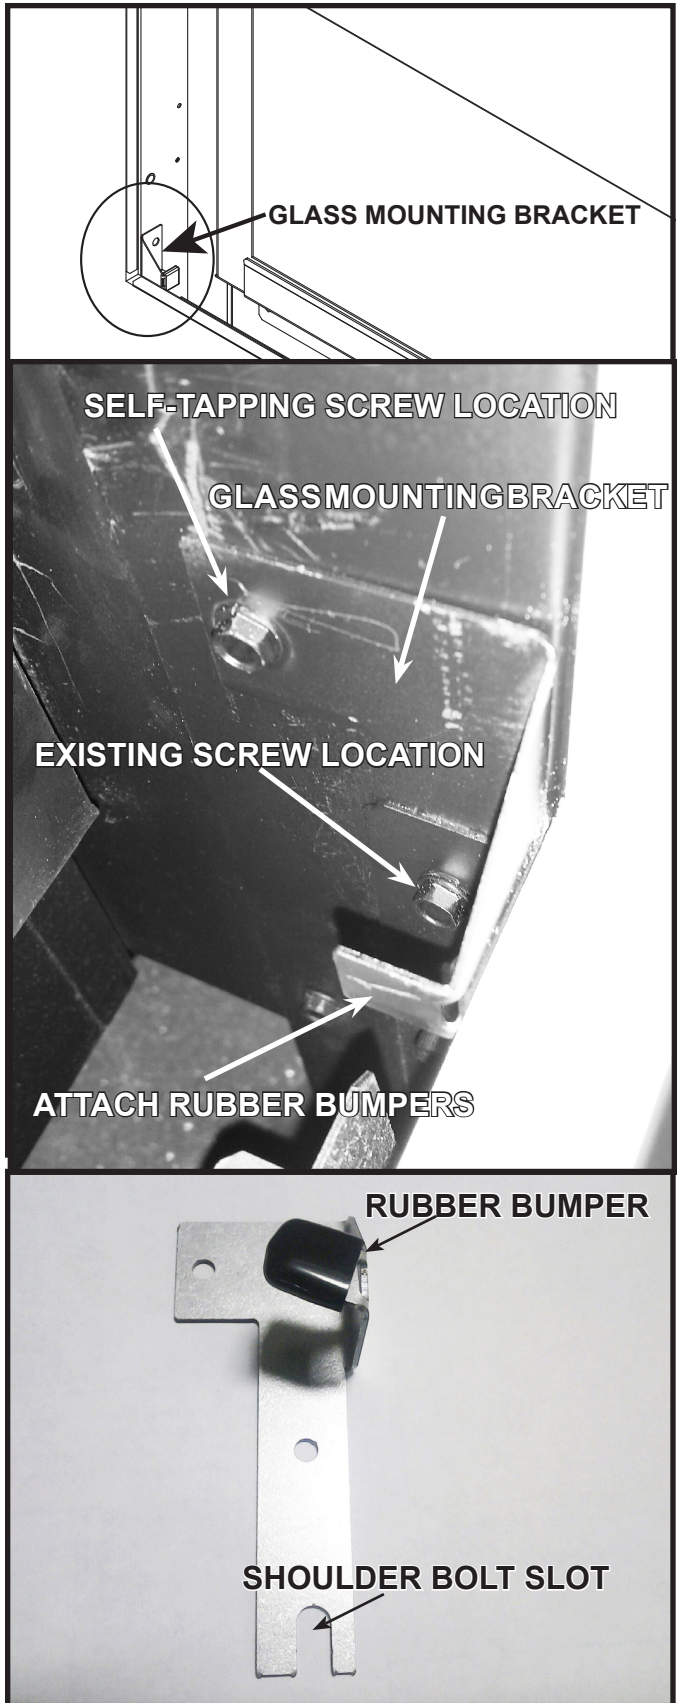

Figure 5.9 Install Glass Mounting Brackets
14. Install glass mounting brackets on bottom left and right sides using an existing screw, a self-tapping screw, and shoulder bolt. See Figure 5.9. Install rubber bumpers as shown to protect the barrier glass.